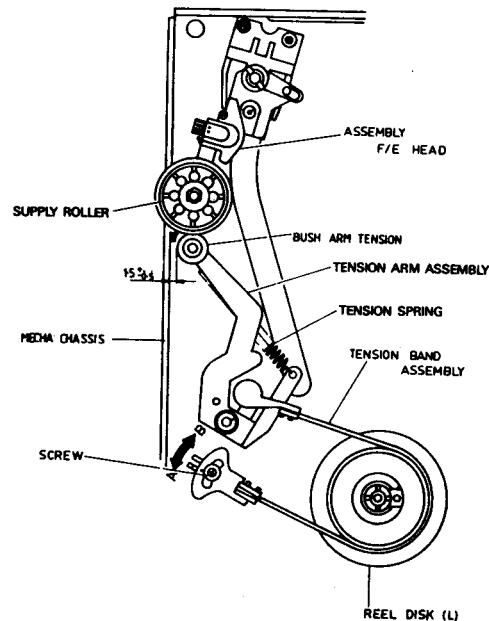

Fig.3
5. After loosening the screw, move the Fig 3 tension spring in direction "B", If the tension adjustment tape reads 45 or higher, in direction "A" when it is 39 or lower, and adjust the back tension for a nominal reading of 42 on the scale.
3-4. Arm Tension Position Adjustment (Fig. 3)